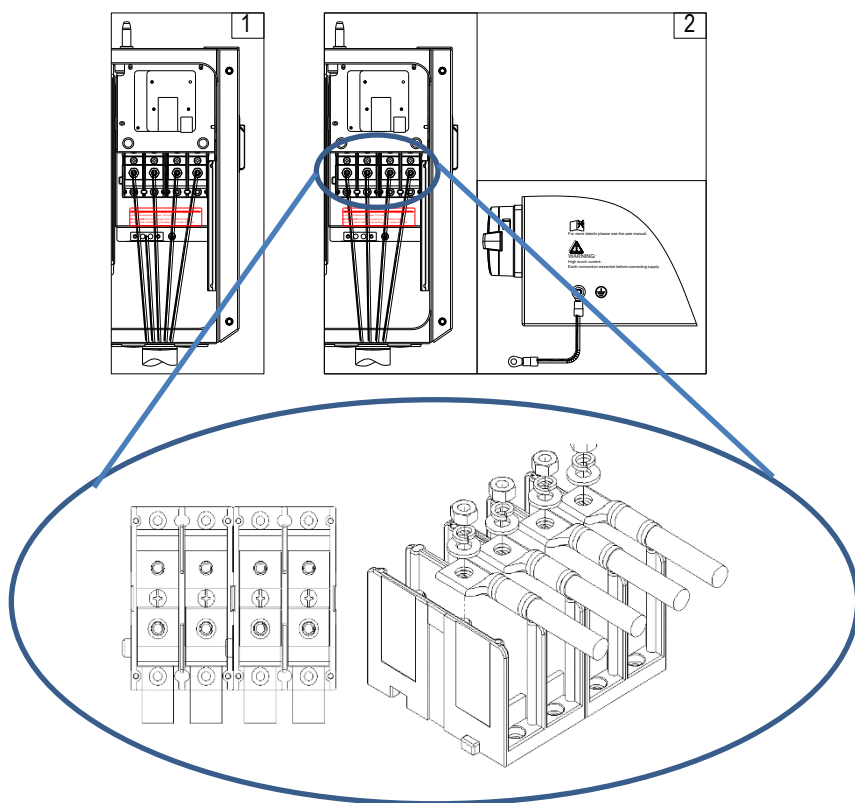

Figure 2.35 - AC Output and Ground Cable Connections
(1) Use the OT type terminal to connect the AC (L1, L2, L3, N) cables to the terminal block and connect the ground cable to the internal grounding bar inside the wiring box. (See the first diagram in Figure 2.35)
(2) Use the OT type terminal to connect the AC (L1, L2, L3, N) cables to the terminal block and use the OT type terminal to connect the ground cable to the external grounding point at the bottom of the wiring box. (See the second diagram in Figure 2.35)